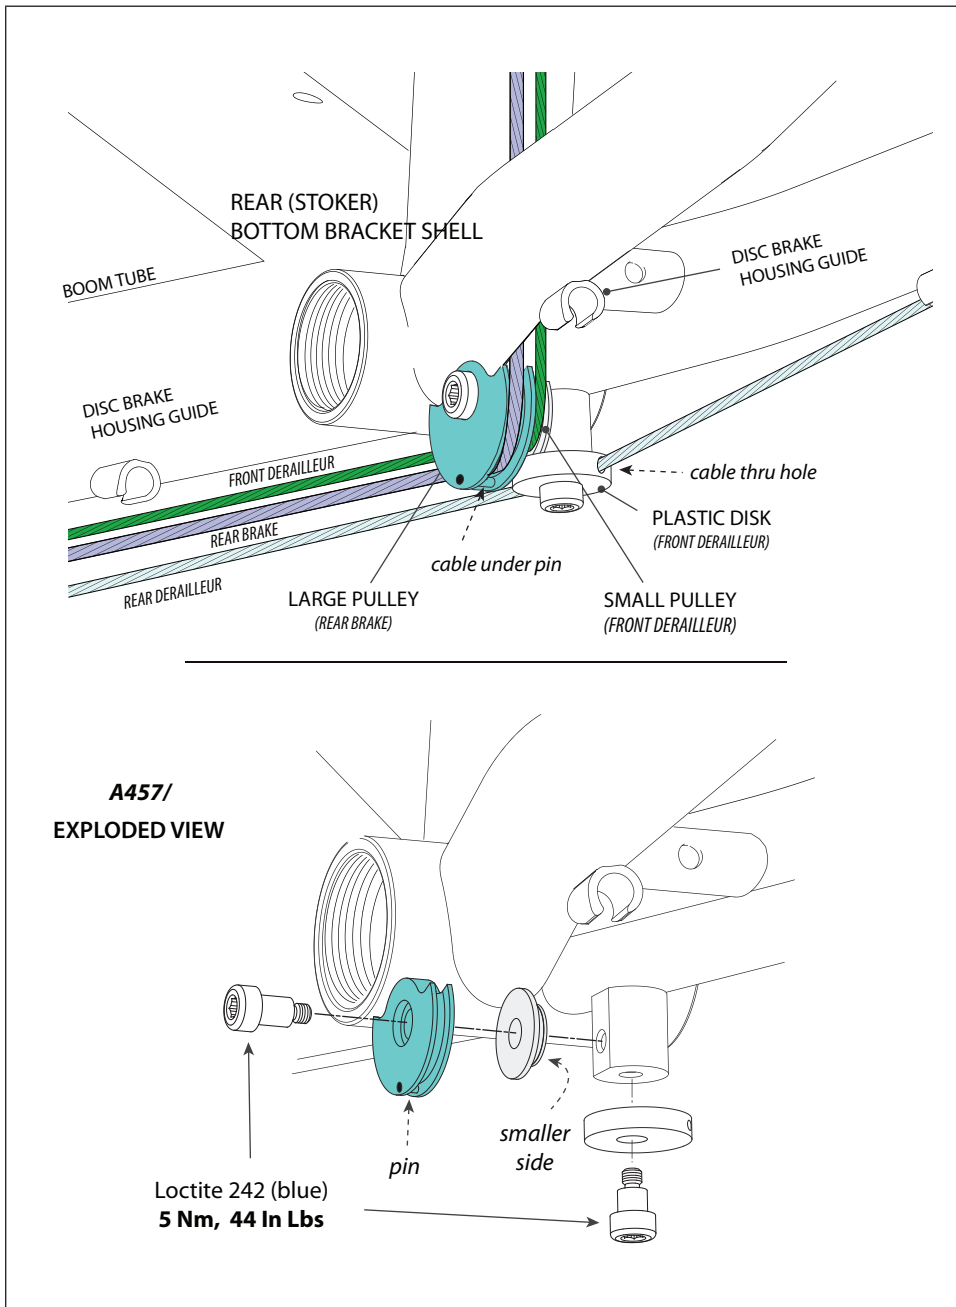

Figure 8.
Figure 8. shows the correct cable routing method at the stoker bottom bracket. All three cables ( rear brake, front derailleur, and rear derailleur) coming into this point will be bare from the captain BB area to the pulleys/guides. The rear cable guides on the boom tube will not be used. It is only necessary for disc brake housing.
**ROUTE RIM BRAKE CABLE UNDER THE PIN IN THE LARGE PULLEY.** This is necessary to prevent the cable from dislocating from the pulley groove. If the cable is dislocated, you can lose your rear brakes. See Figure 8.